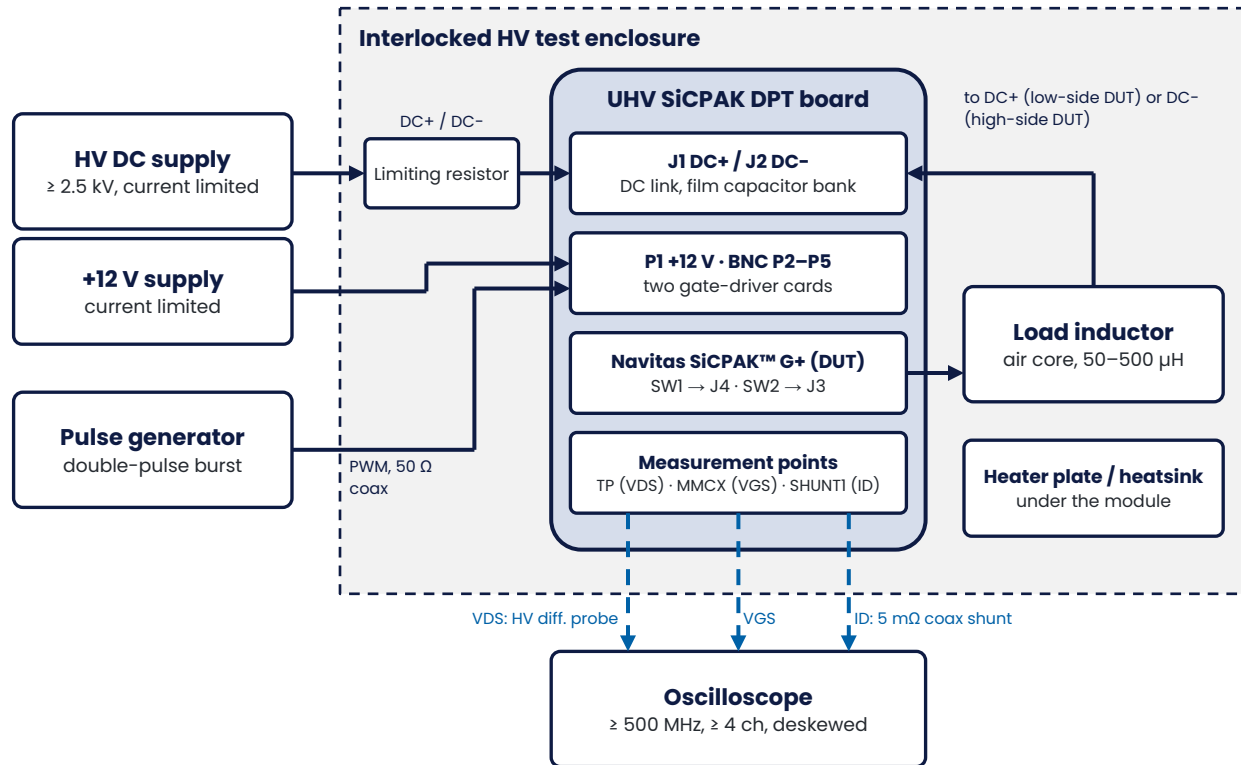

Fig. 6. Double-pulse test setup and connections.
Fig. 6 shows the bench connections. Power and control connections are drawn solid; measurement probes are dashed. Everything at high voltage sits inside an interlocked enclosure.
4. Make all connections in Fig. 6 with the HV supply output off.